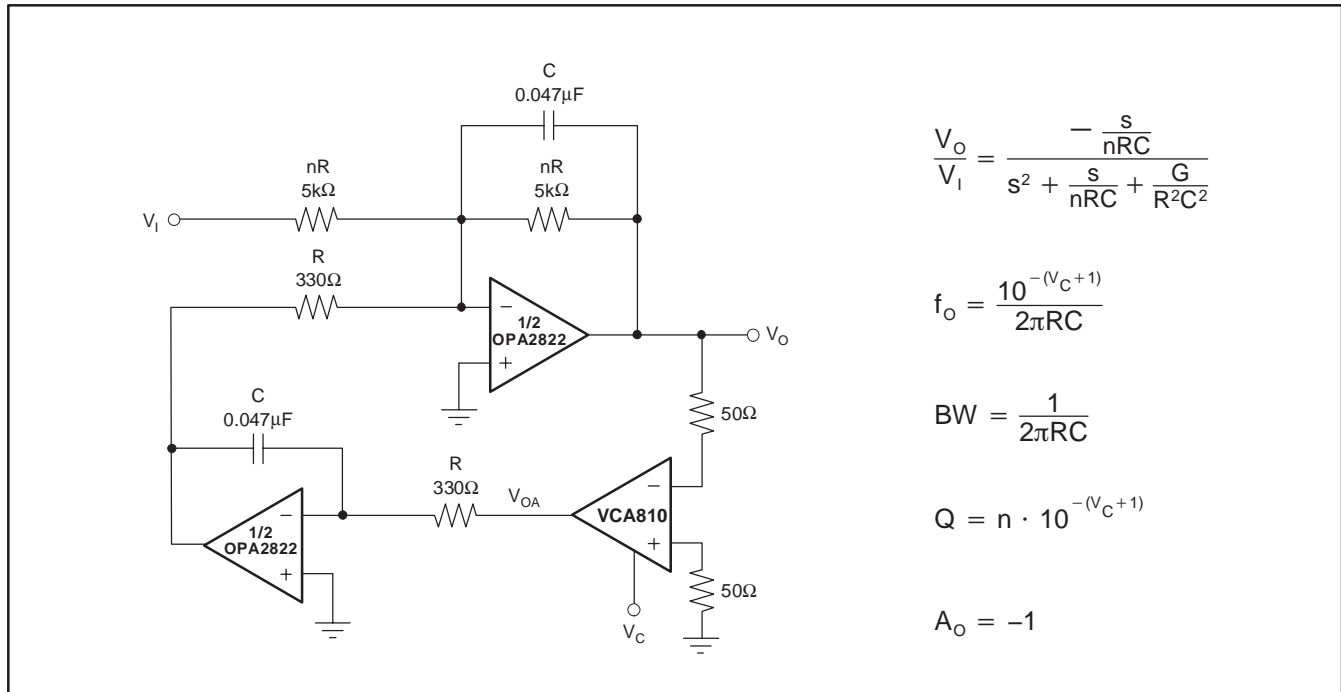
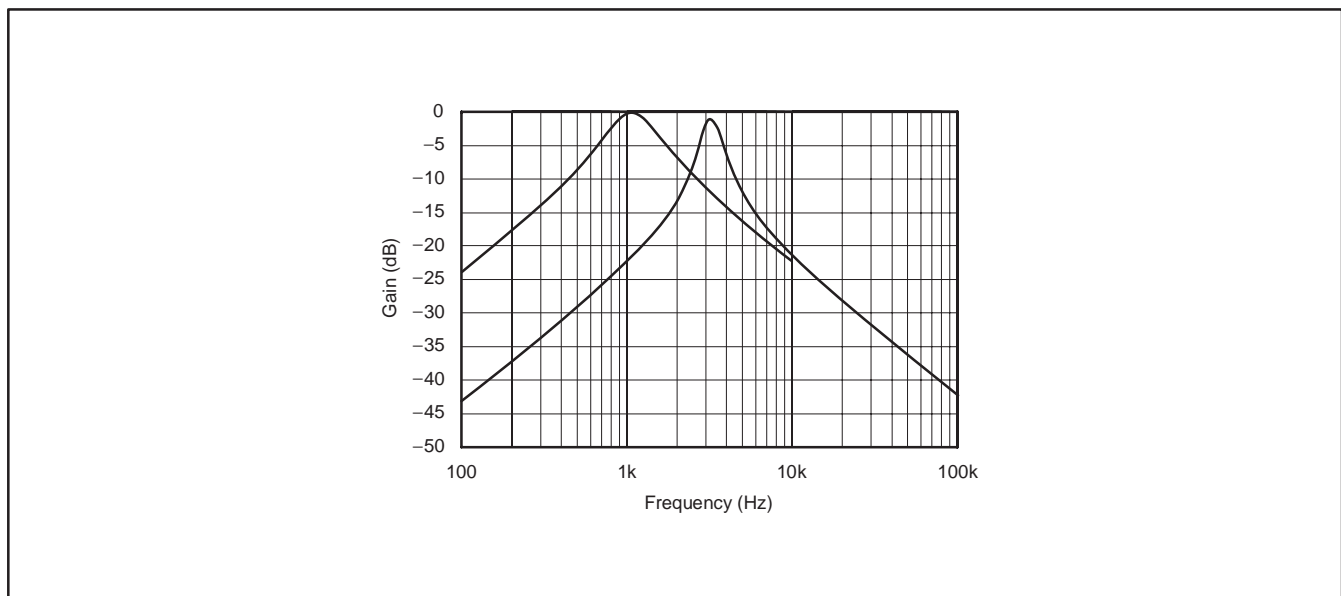

Figure 15. Tunable Band-Pass Filter
Figure 16. Tunable Band-Pass Filter Response
The variable gain of the VCA810 also provides voltage control over the center frequency of a band-pass filter. As shown in Figure 15, this filter follows from the state-variable configuration with the VCA810 replacing the inverter common to that configuration. Variation of the VCA810 gain moves the filter's center frequency through a 100:1 range following the relationship of Equation (5):
Figure 16 shows the frequency response for two different gain conditions of the schematic shown in Figure 15.